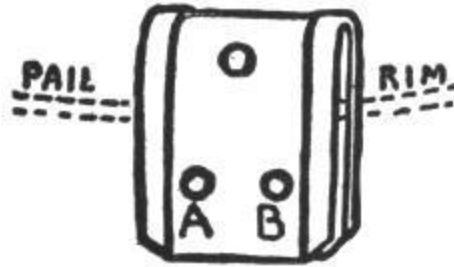

FIG. 38.
**Forming the Lugs for the Handle.**—Cut two pieces of tin, each  $1\frac{1}{2}$  by  $3\frac{1}{2}$  inches, fold over  $\frac{1}{4}$  inch on each of the long sides of these two pieces, then double over each piece with the folds outside, as shown in Fig. 38. Snip off the corners, then place the lugs on the maple block and punch three holes in about the position shown. See that the holes are slightly larger than the shanks of the rivets to be used, but do not get the holes very much larger than the rivets.